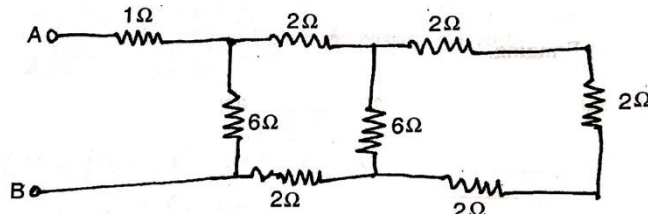

Figure 4
- 4 d) Find the resistance between terminals A and B of the network shown in Figure 4.